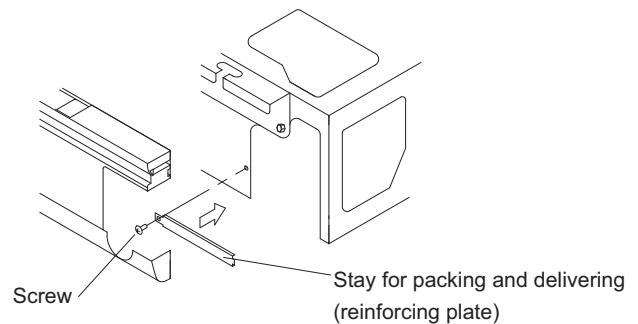

Fig. 30
- After the drain piping work, install the stay for packing and delivering (reinforcing plate), which was removed in the section of "6. REFRIGERANT PIPING WORK". However, it is not necessary to install the stay for packing and delivering at the right side (reinforcing plate). (Refer to Fig. 30)